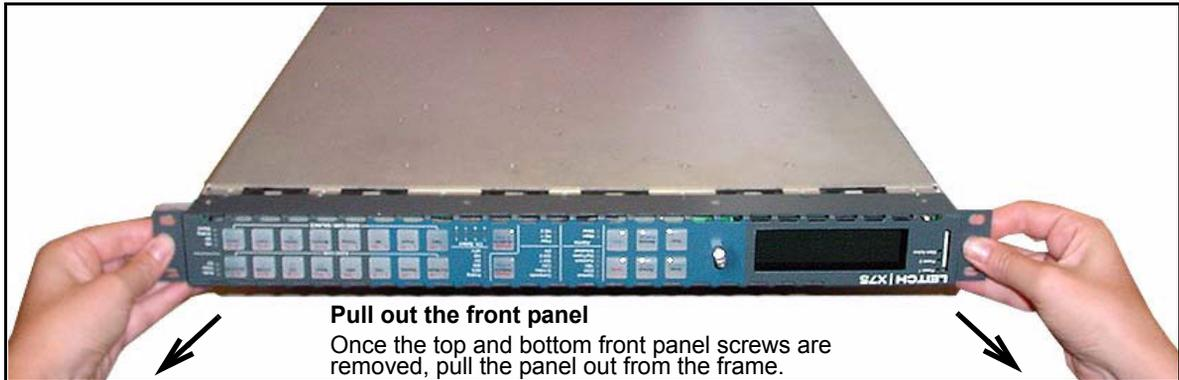

Figure C-37. Removing the Front Panel
3. Pull the front panel away from the frame. (See Figure C-37.)